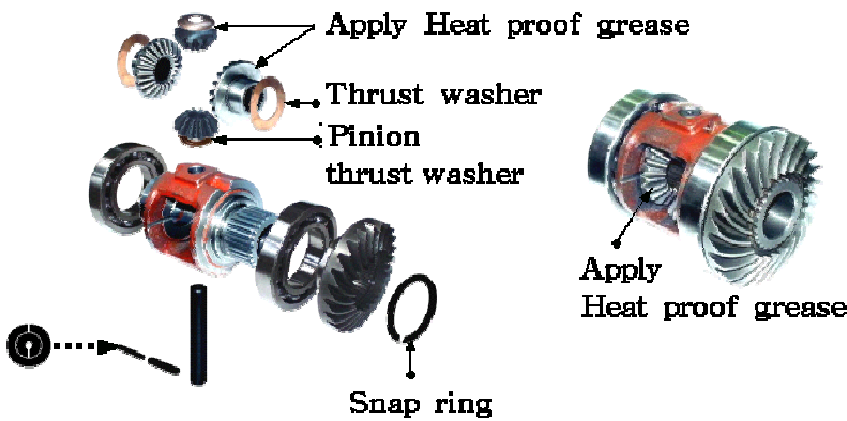

Fig.6-17
- 4) Install the snap ring and the bevel pinion can then be installed together with the TRB's (Fig.6-17)